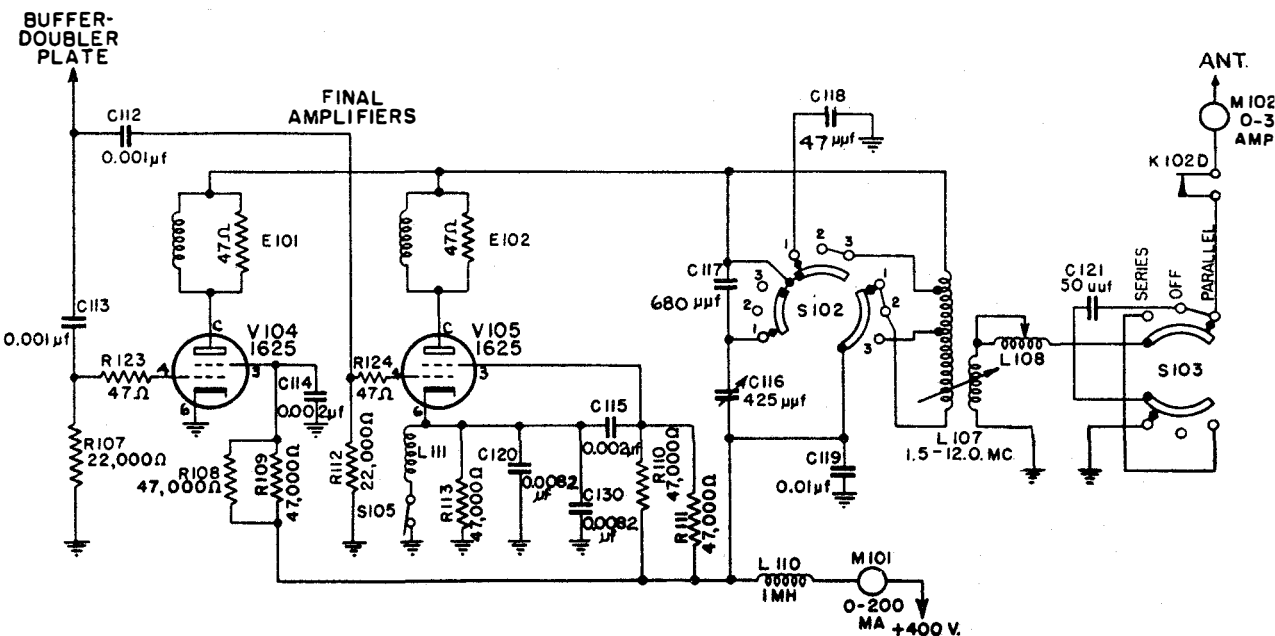

Figure 2-8 Transmitter Final-Amplifier and Antenna-Coupling Circuits
c. FINAL AMPLIFIER. (See figure 2-8.)—The final amplifier employs two type 1625 tubes V104 and V105 operating as Class-C amplifiers in a parallel-connected circuit. Grid resistors R107 and R112 supply the necessary bias. Both tubes are used in CW, but only one in VOICE transmission. When the VOICE-CW switch S105 is in the "VOICE" position, only V104 is operative; V105 is disabled by an open filament circuit and a high resistance R113 in its cathode circuit. The output stage operates as a straight amplifier on all frequencies. A direct-current
e. OUTPUT CIRCUIT. (See figure 2-8.)—The output circuit consists of a tank inductor L107. The PLATE TUNING capacitor C116, and the padding capacitors C117 and C118. This combination will tune over the entire frequency range of the transmitter. The taps of the tank inductor and the padding capacitors are so arranged that a favorable L/C ratio is maintained throughout. BAND SWITCH section S102, which is ganged to BAND SWITCH section S101, selects the proper tap and padding capacitor for each band of frequencies.